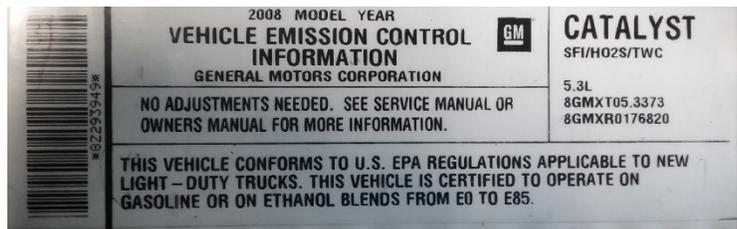

Figure 7 –Under Hood Label (EPA)
- Check the **under-hood label**, (see Figure 7). Since the 1972 model year, federal law requires every new vehicle to be equipped with a permanent label within the engine compartment. The label should contain the following information:
- Engine size in cubic inches (CI), cubic liters (L), or cubic centimeters (CC);